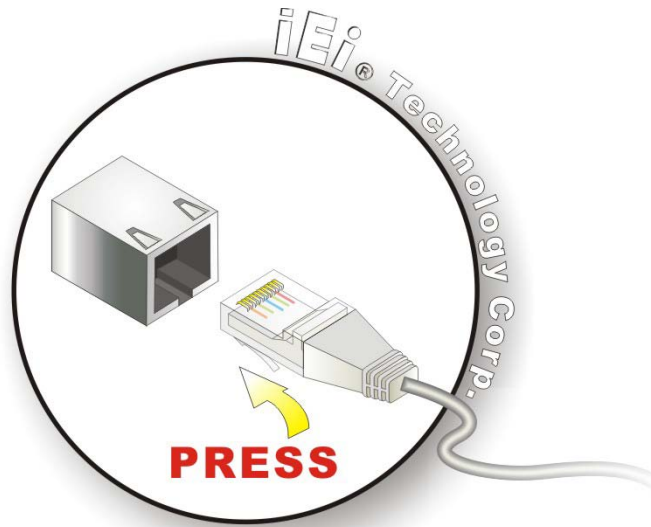

Figure 4-19: LAN Connection
Step 2: Align the connectors. Align the RJ-45 connector on the LAN cable with one of the RJ-45 connectors on the IMBA-G412ISA. See **Figure 4-19**.